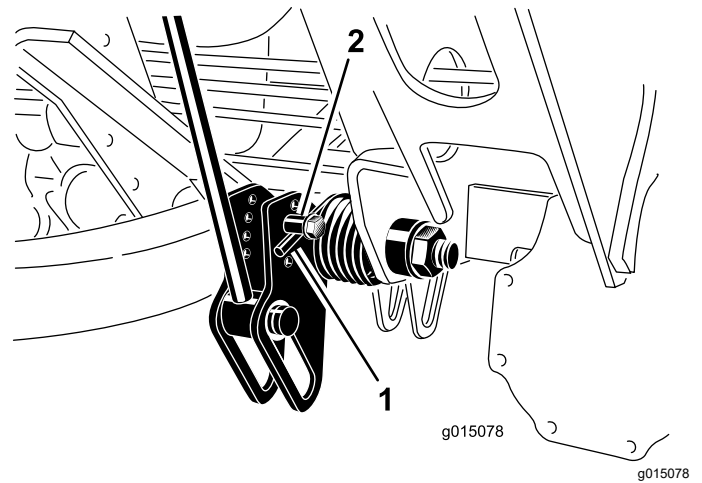

Figure 60
2. Insert a tube or similar object onto the long spring end to relieve the spring tension during the adjustment (Figure 60).
3. While relieving the spring tension, remove the bolt and locknut securing the spring actuator to the bracket (Figure 60).